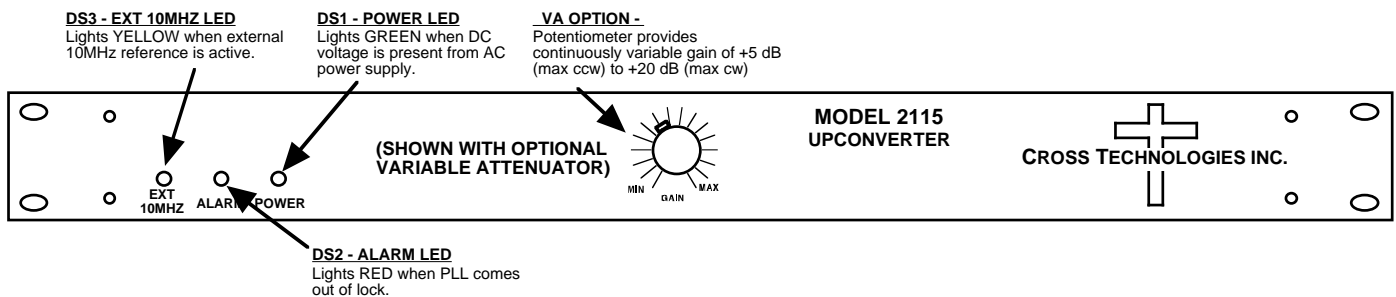

FIGURE 2.2 2115-109 Front Panel Controls and Indicators
4. Be sure DS1 (green, DC Power) is on and DS2 (red, Alarm) is off (Figure 2.2).
7. If EXT is selected or AUTO is selected and there is a 10MHz, +3 dBm signal at J2, check that DS3 (yellow, Ext 10MHz) is on (Figure 2.2).